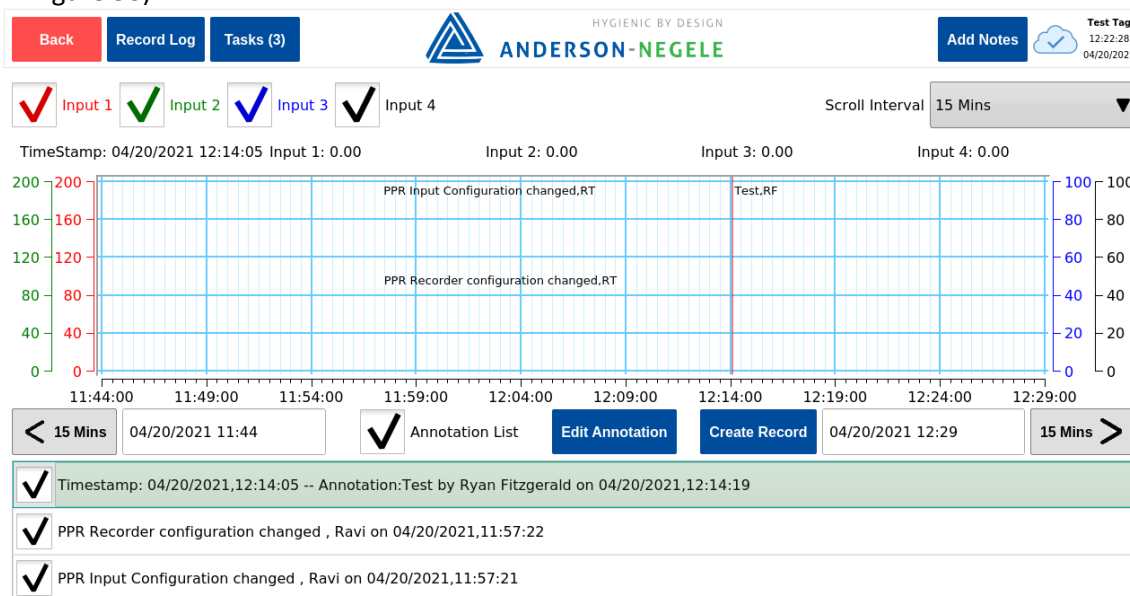

Figure 50: Edit Annotation Workflow
2. Select the *Annotation List* check box to ensure the Annotation List is displayed (shown in Figure 50)
3. Select the annotation that needs to be edited. When the annotation is selected it will be highlighted in the list as shown in Figure 50